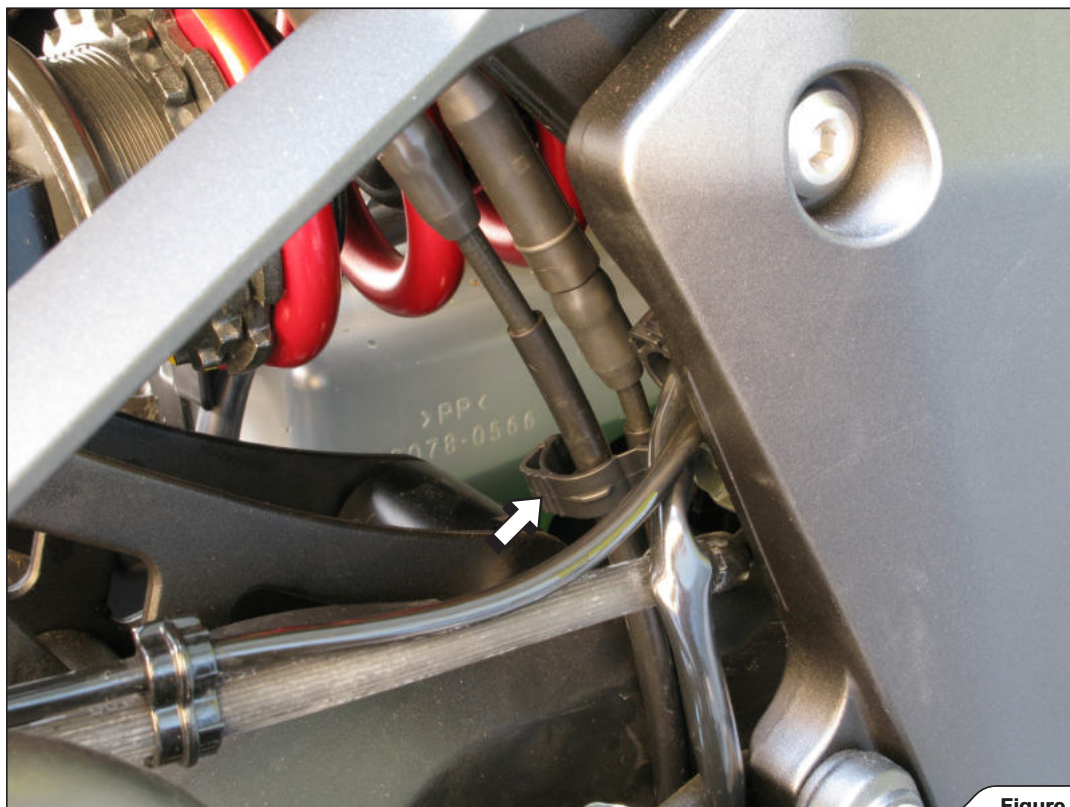

Figure 5
5. For Z1000 model only: undo the cables' plastic fastener and unscrew the cables' bracket (Figure 5, 6).